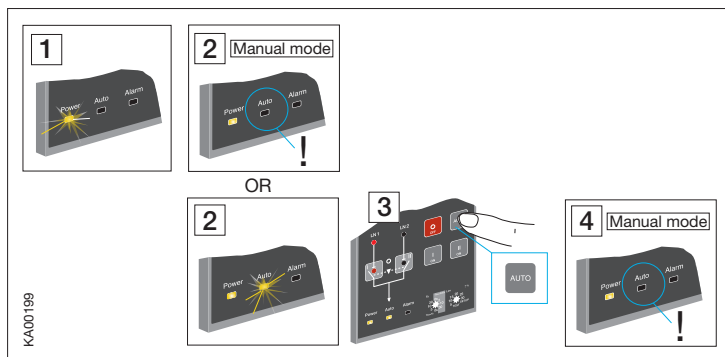

Figure 6.1 Selecting the automatic control unit OMD_ to Manual Mode
- Make sure that the power LED is ON, see the Figure 6.1/①.
- If the Auto LED is OFF /②, the automatic control unit is in Manual Mode.
- If the Auto LED is ON, push the Auto key once /③. The Auto LED switches to OFF and the automatic control unit OMD_ is in Manual Mode /④.